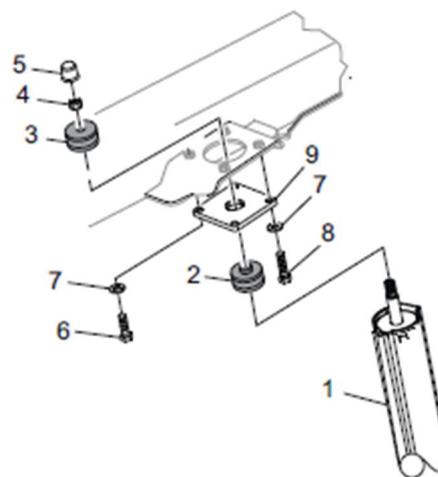

Figure 13: Rear Shock absorbers Upper hardware detail.
- c. Clock the dust covers on the shock absorbers so that the molded plug on the sensor harness faces the rear of the vehicle as seen in Figure 13.